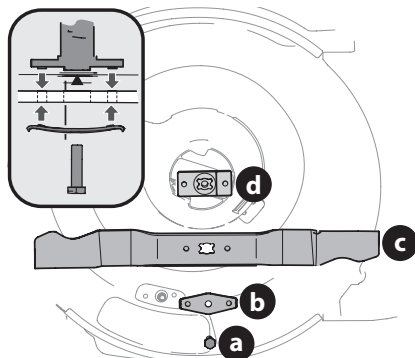

Figure 24
4. Remove bolt (a) and blade bell support (b) which hold the blade and the blade adapter to the engine crankshaft (Figure 24).
5. Remove blade (c) and blade adapter (d) from the crankshaft (Figure 24).
7. Lubricate the engine crankshaft and the inner surface of the blade adapter with light oil (Figure 24, inset).